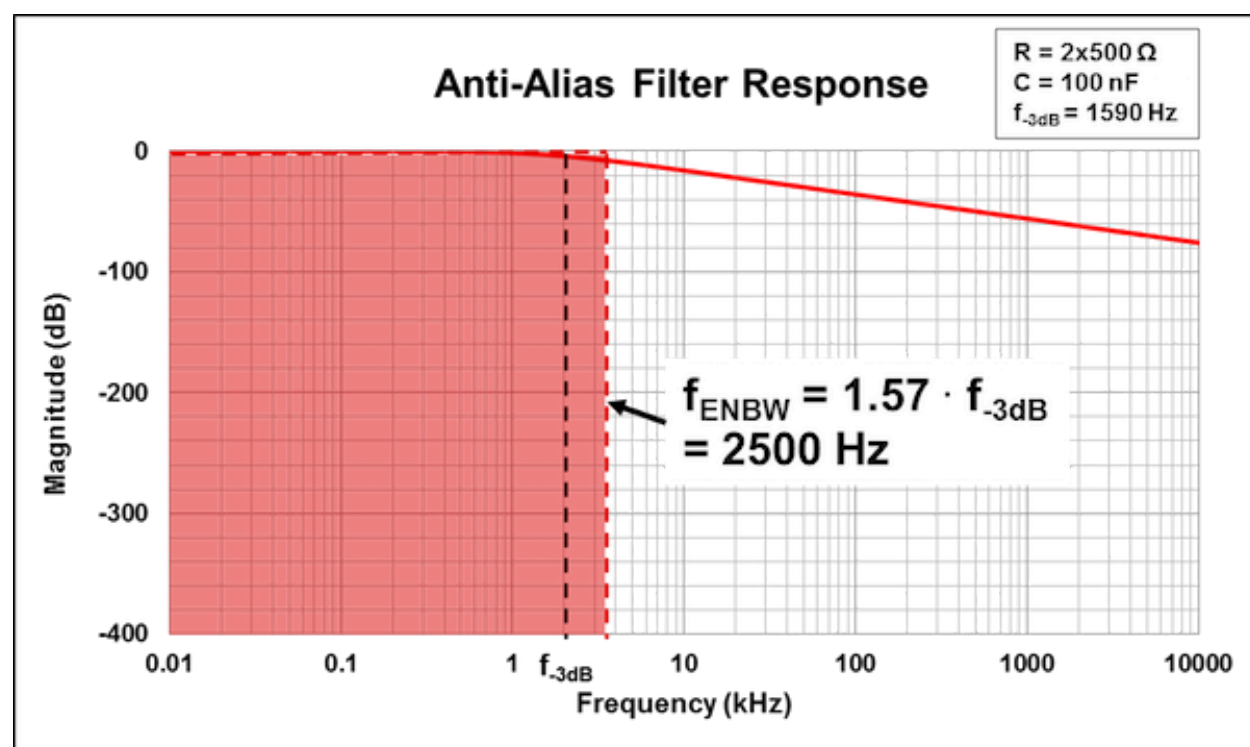
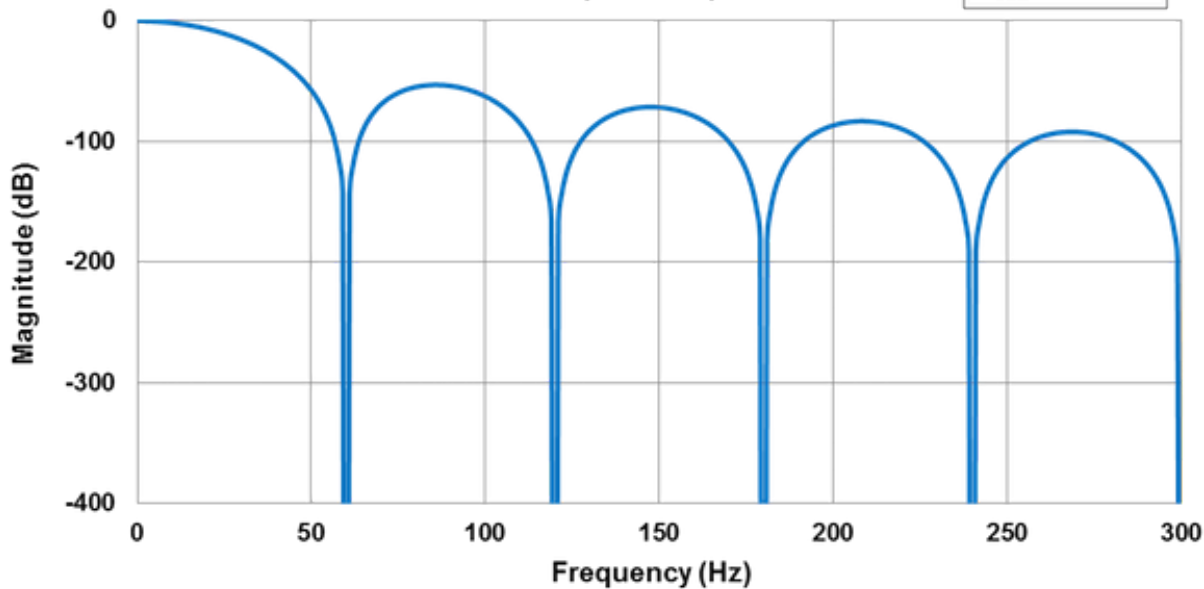

Figure 2. Anti-aliasing filter response with ENBW highlighted
Figure 3. ADS1262 SINC filter response — linear frequency scale,  $f_{max}=300\text{Hz}$
Finally, plot the anti-aliasing filter's response as shown in Figure 2, with the filter's ENBW represented by the red shaded area.
With a firm understanding of the anti-aliasing filter's frequency response, the next step is to determine the response of the ADC's sinc filter. For this example, let's choose the 32-bit, low-noise ADS1262 from Texas Instruments (TI), although this analysis is generally applicable to any delta-sigma ADC. In this case, I'll use the ADS1262's sinc4 filter at a data rate of 60 samples per second (SPS). Figure 3 recreates a data-sheet plot for this filter's frequency response at these settings (derived from the ADS1262 configuration tool).
One subtle but important difference between these two filter response plots is that the sinc filter plot (Figure 3) uses a linear frequency axis, while the anti-aliasing filter plot (Figure 2) has a logarithmic frequency axis. This disparity results from the slow data rates of most delta-sigma ADCs, where showing multiple frequency decades is generally unnecessary. Unfortunately, this choice complicates the process of combining the filters into the same plot.
Additionally, recall that a sinc filter response repeats indefinitely – it does not simply “stop” at 300Hz as it might appear in Figure 3.